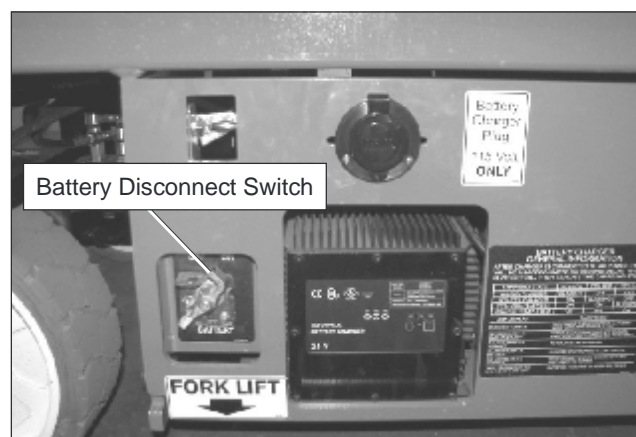

Figure 6.1 – Battery Tray
1. Turn the battery disconnect switch (refer to Figure 6.1) off. The switch is next to the latch on the battery tray.